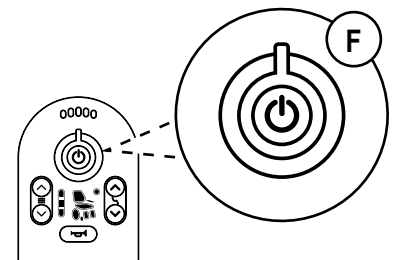

Figure 5.8. Emergency stop on the LiNX REM211.
When driving or adjusting seat functions, you can quickly cancel movement by releasing the joystick or by pressing the main switch (F), see Figure 5.8. The control unit switches off and the electrical function stops.